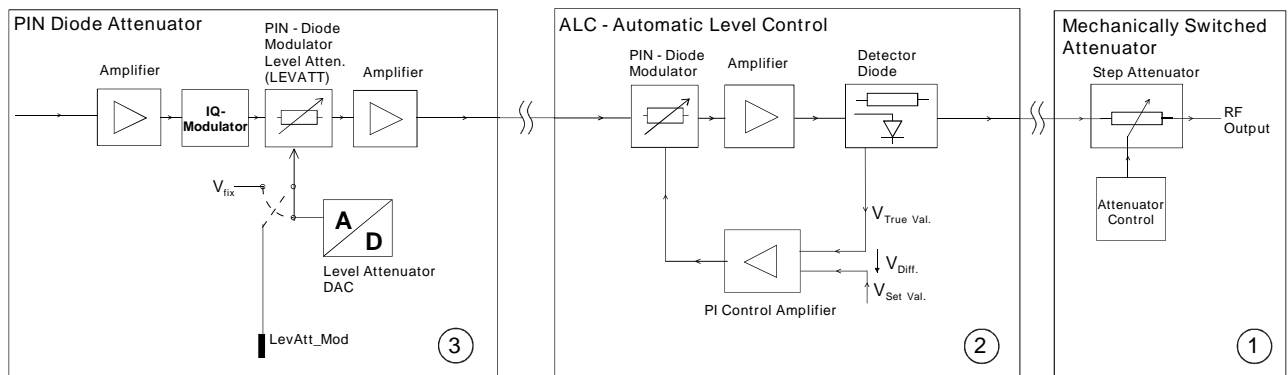

Fig. 1-1 The three modules to perform level settings in the SMIQ.
- ① The mechanically switched attenuator is connected between the RF-output module and the instrument output. The mechanical concept uses six in series cascaded, fixed attenuator pads. Some characteristics of this attenuator type are:
- ② The automatic level control (ALC) is located prior to the mechanically switched attenuator ① in the signal path of the SMIQ. Its characteristics are:
3. Amplitude modulation (AM), by varying the set value ( $V_{\text{Set Val.}}$ , Fig. 1-1).
- ③ The PIN-diode attenuator is located after the IQ Modulator and has the following characteristics:
The attenuation of the mechanically switched attenuator (see Fig. 1-1, circuit block ①) is automatically selected in accordance with a user's set RF-level. Switching of the attenuator occurs in 5 dB steps. The intermediate steps of attenuation are set by the ALC loop in the SMIQ (see Fig. 1-1, circuit block ②). The ALC loop operates within this mode in a range between 0 dB and 4.9 dB.
The ATTENUATOR MODE ELECTRONIC2 uses the level attenuation circuit located at the output of the IQ Modulator (see Fig. 1-1, circuit block ③). The signal is applied to two pin diode attenuators, which are separated by an amplifier. This allows a fast level attenuation transient time of <15  $\mu$ s and an attenuation of up to 70 dB. For level settings requiring an attenuation of more than 70 dB the automatic level control circuitry is automatically used in addition, so that a total dynamic range of 90 dB electronic level setting is achieved.